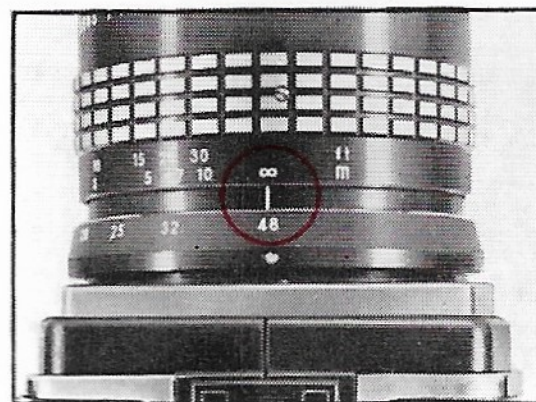

Fig. 7
1. Zoom the lens to the telephoto position by turning the zoom ring (Fig. 7).
2. Set the focus ring to infinity (∞), then look at a distant object through the viewfinder (Fig. 7).